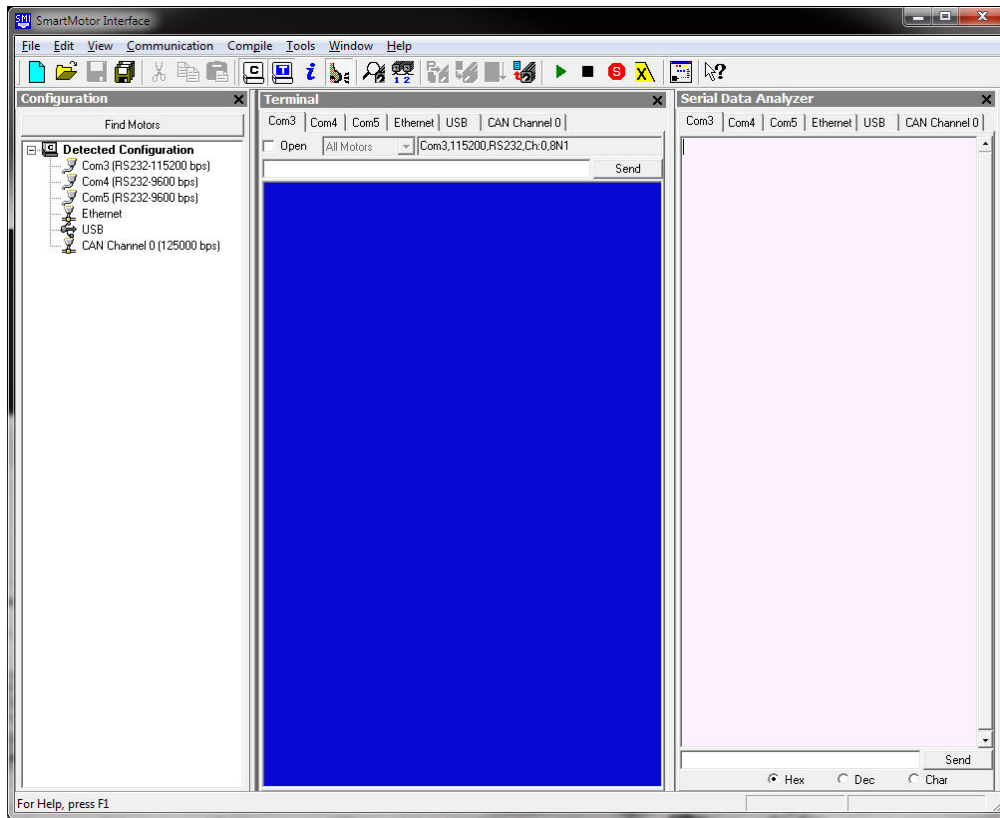

Figure 6: SMI View Layout
- 4) Now click on **View** and make sure that the **Terminal**, **Configuration**, and **Serial Data Analyzer** windows are checked. Your application layout should now look like the one in Figure 6.